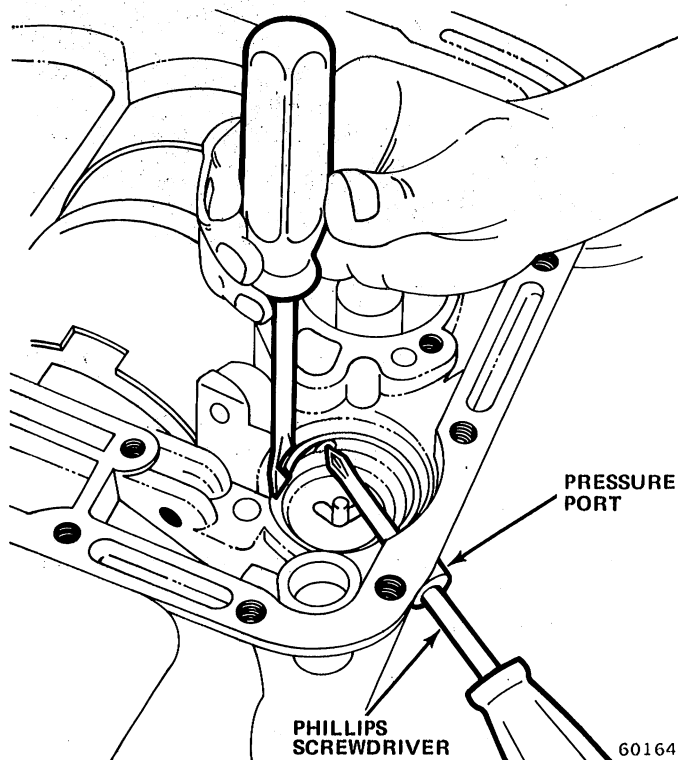

Fig. 2C-39 Front Servo Removal
- (1) Remove front servo pressure port plug.
- (2) Compress servo piston rod guide until it bottoms in case bore.
- (3) Insert No. 2 Phillips screwdriver into pressure port (fig. 2C-39).
- (4) Slowly release rod guide against screwdriver (fig. 2C-39).
- (5) Remove servo retaining snap ring.
- (6) Compress rod guide and remove screwdriver.
- (7) Slowly release rod guide and remove rod guide, springs and piston rod.